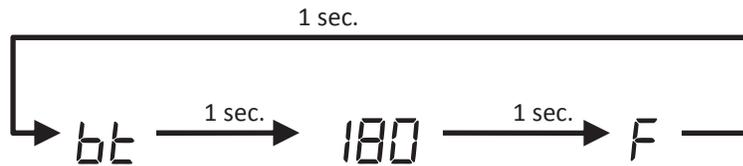

FIGURE 12.3: TYPICAL OPERATING MODE DISPLAY (BOILER TEMP SHOWN)
2. Operating Mode - Provides additional information about the current status of the boiler. Operating mode is entered by pressing the **I** button shown in Figure 12.0. When this button is first pressed in Status mode, the display will alternately display *bE* and the current boiler water temperature as shown in Figure 12.3. Pressing the **I** button again will display the next line item shown in Table 12.2. In the same manner it is possible to advance through all of the “parameters” shown in Table 12.2. To return to Status mode, press **I** repeatedly until *5E#* once again appears on the display. Alternatively, the control will return to Status mode if no key is touched for 1 minute.
In operating mode, holding either the \uparrow or \downarrow button while viewing a given parameter will keep the display on the actual reading. For example, pressing \uparrow while reading boiler temperature as shown in Figure 12.3 will keep the display on 180 for as long as this button is held. This makes it easier to view readings “live” if they are changing rapidly